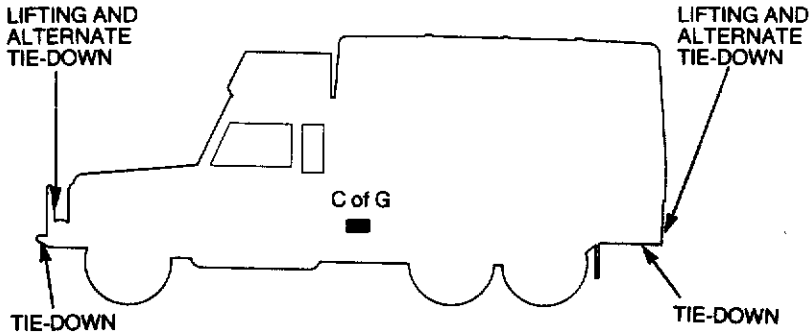

Figure 1-3 Slings and tie-down points
37. Slings and tie-down points are illustrated in Fig. 1-3.